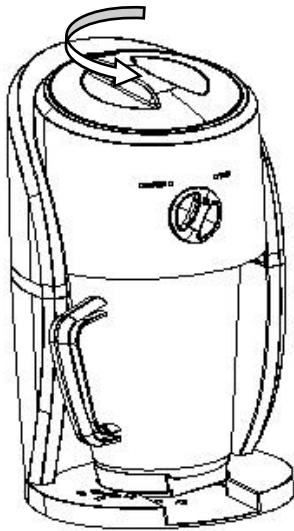

Figure 4
5. Place Lid on Main body and turn counterclockwise to engage the interlock switch (Power On/Off). The unit will start and begin to shave ice. (Figure 4)